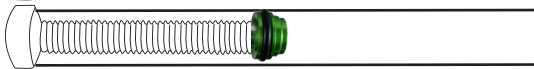

Fig 4
- Unscrew the screw from the shaft. (Fig. 4)